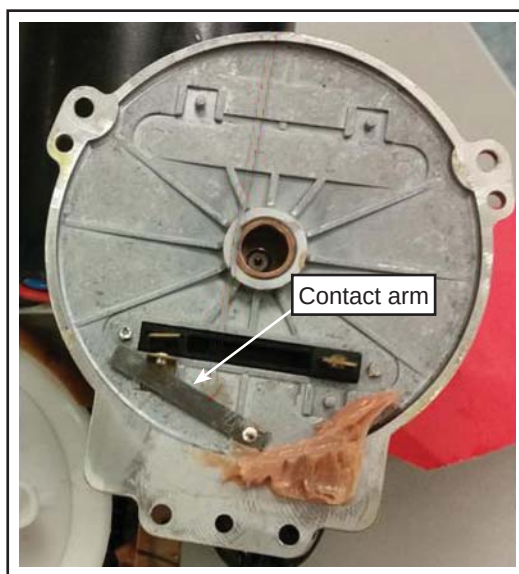

Figure 5 - Typical Broken Contact Arm
- 1.8. Be sure to remove the contact arm. See Figure 5.